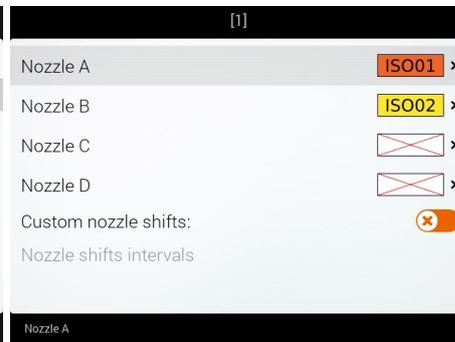

Fig. 48
- Select the nozzle you wish to set up (A, B, C or D, in Fig. 48).